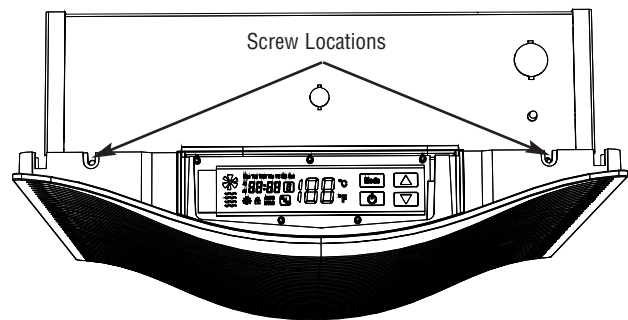

Figure 6- Securing Grille Assembly
3. Lift and rotate the the grille assembly into the backbox carefully to ensure the control wire is not trapped between the grille assembly and back box. Insert two screws at the top edge of grille assembly on either side of the control panel as shown in Figure 6.